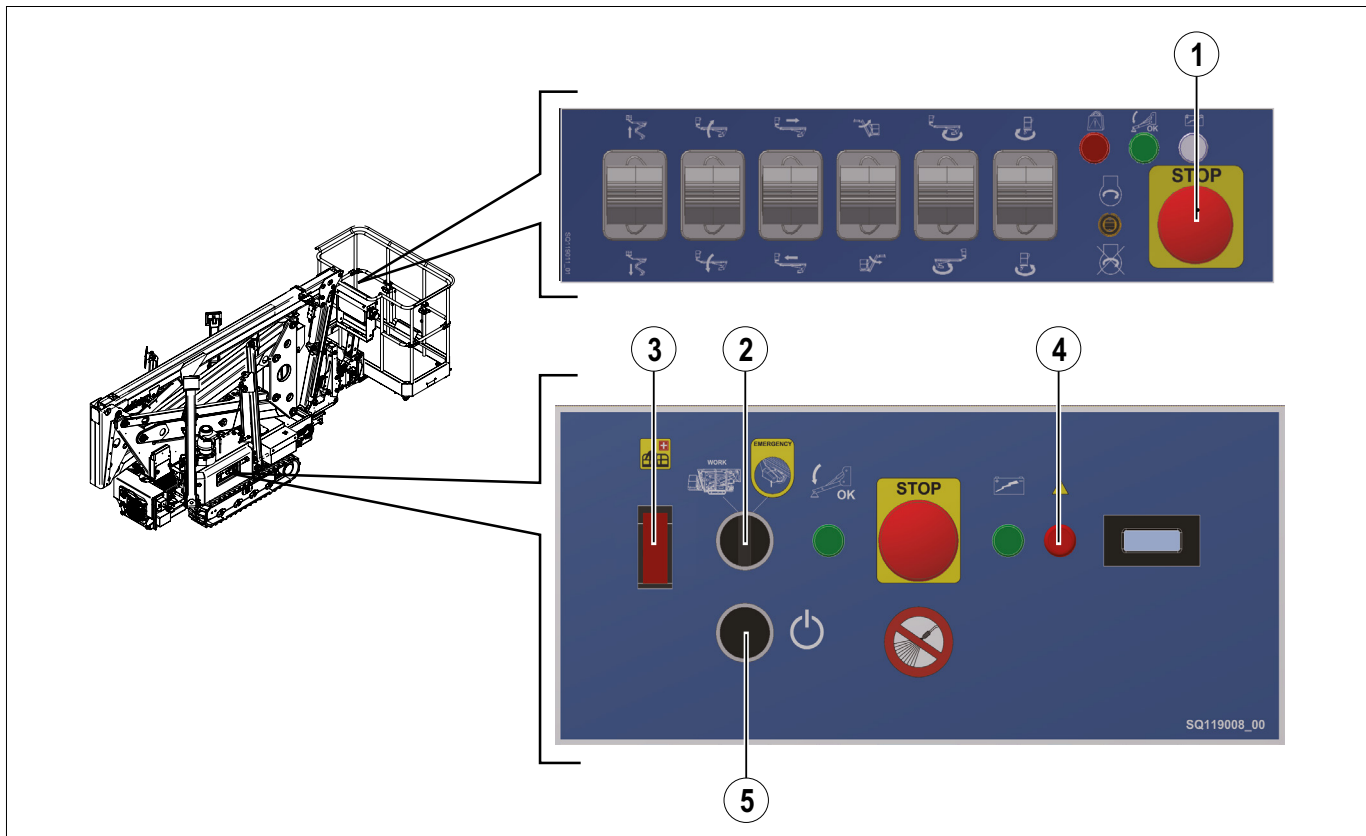

FIG. 40 (Lowering the platform to the ground in the event of an emergency stop)
If the work platform has stopped due to the emergency button on the work platform console being pressed (FIG. 40 - Ref. 1), or it has been locked because the load limit has been exceeded, it is possible to bypass the emergency condition for a predefined time and lower the platform.
- 3) Press and release the bypass switch (FIG. 40 - Ref. 3).
- This bypasses the emergency button on the work platform (FIG. 40 - Ref. 1) and/or the load limiter.
- The LED (FIG. 40 - Ref. 4) will flash as long as the bypass is active.
- Turn on the engine by pressing the button (FIG. 40 - Ref. 5)
- Once the recovery operations have been completed, turn the selector (FIG. 40 - Ref. 2) to the "Work Platform Controls" position.
THE BYPASS CONTROL SHOULD ONLY BE USED WHEN ABSOLUTELY NECESSARY. IF USED IN ANY SITUATION OTHER THAN AN EMERGENCY STOP, AN OVERLOAD SITUATION, OR WHEN THE SELECTOR IS IN THE "PLATFORM CONTROLS" POSITION (FIG. 40 - REF. 2), AN ALARM WILL SOUND.